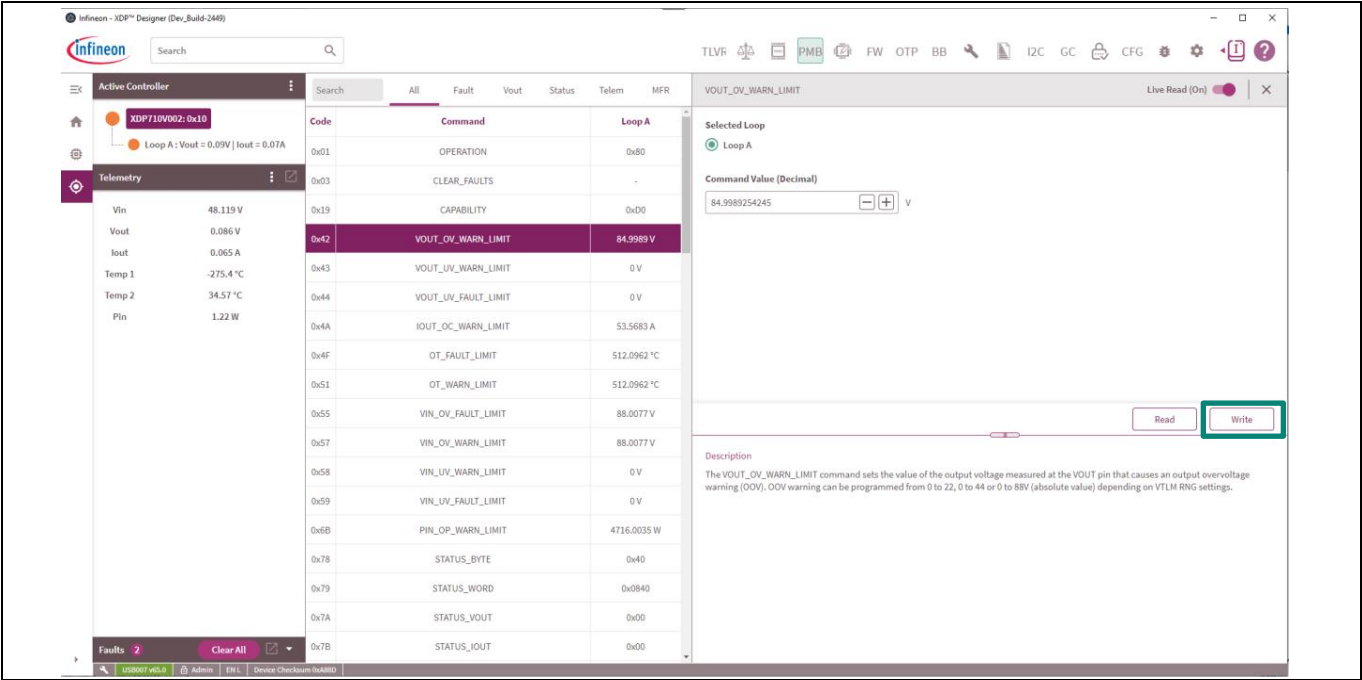

Figure 24 Editing VOUT\_OV\_WARN\_LIMIT
- For editing any register individually, click on the corresponding PMBus register, make the necessary changes, and then click **Write** as shown in Figure 24.